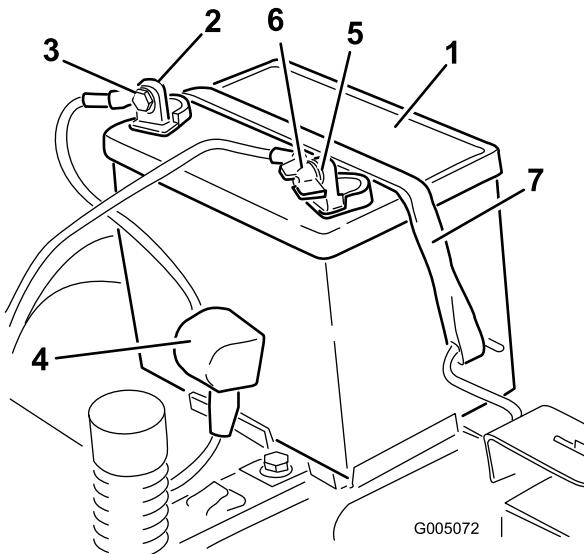

Figure 46
6. Disconnect the positive (red) cable from the battery post (Figure 46).
7. Remove the battery hold-down (Figure 46), and lift the battery from the battery tray.
4. Disconnect the negative (black) ground cable from the battery post (Figure 46).
1. Position the battery in the tray (Figure 46).
5. Secure the battery with the hold-down (Figure 46).